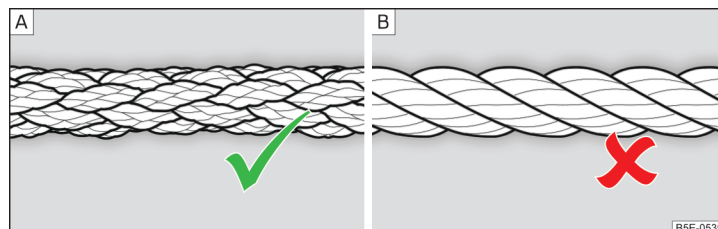

Fig. 337 Braided tow rope / Spiral tow rope
For towing using a tow rope, use only a braided synthetic fibre rope » Fig. 337 - **A** » **!**
- Wound tow ropes must not be used for towing » Fig. 337- [B], the towing eye may unscrew out of the vehicle - risk of accident.